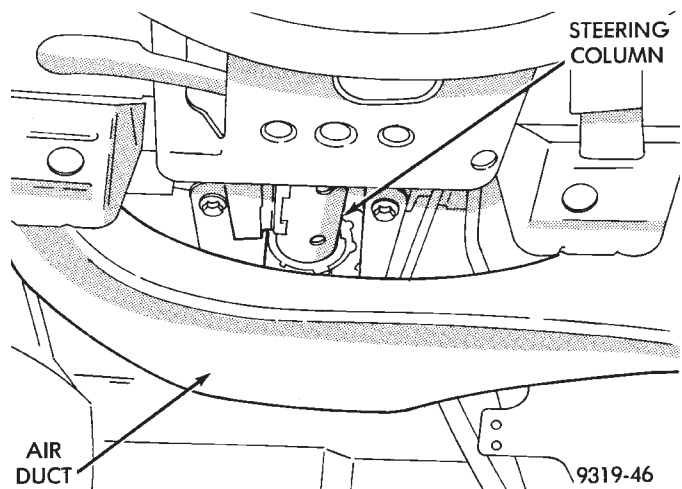

Fig. 8 Under Steering Column Air Duct
(10) Remove left and right cowl area trim panels. Refer to Group 8 Electrical in this service manual for the required removal procedure.
(11) Remove console or instrument panel lower center cover and ash receiver assembly. Refer to Group 8 Electrical in this service manual for the required removal procedure.
(12) Remove left under instrument panel silencer/duct.
(13) Remove entire lower dash panel assembly from vehicle. Refer to Group 8 Electrical in this service manual for required removal procedure of the lower dash panel.
(14) Remove the under steering column air outlet duct (Fig. 8).
(12) Install the under steering column air outlet duct (Fig. 8).
(13) Install lower dash panel assembly back in the vehicle. Refer to Group 8 Electrical for the required installation procedure for the lower dash panel assembly.
(14) Install the left side under instrument panel silencer/duct back in the vehicle.
(15) Install console and or instrument panel lower center cover and ash receiver assembly. Refer to Group 8 Electrical in this service manual for the required installation procedure.
(16) Install the left and right cowl area trim panels. Refer to Group 8 Electrical in this service manual for the required installation procedure.